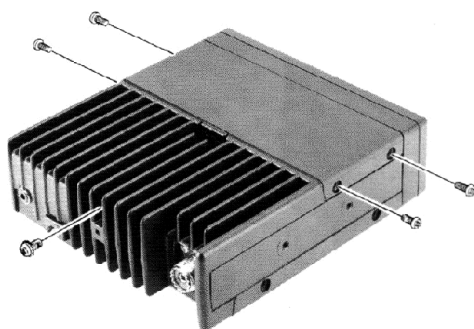

Figure 1
- Disconnect the DC power cable, and referring to Figure 1, remove the four screws affixing the top cover (two on either side), and loosen the one on top from the back by several turns. Lift the rear edge of the cover slightly, then remove it.
- ❑ Disconnect the DC power cable, and referring to Figure 1 on the previous page, remove the four screws affixing the top cover (two on either side), and loosen the one on top from the back by several turns. Lift the rear edge of the cover slightly, then remove it.